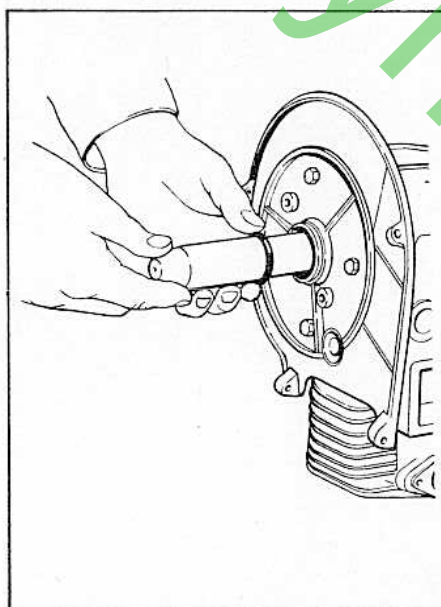

FIGURE 12-12 INSTALLING OIL SEALS WITH SLEEVE
- After oil seals are started on shaft, place block on its side. The oil seals may now be driven squarely into bearing plate and cylinder block. (See Figure 12-12) Refer to pages 15.5-15.6 for correct oil seal depth.